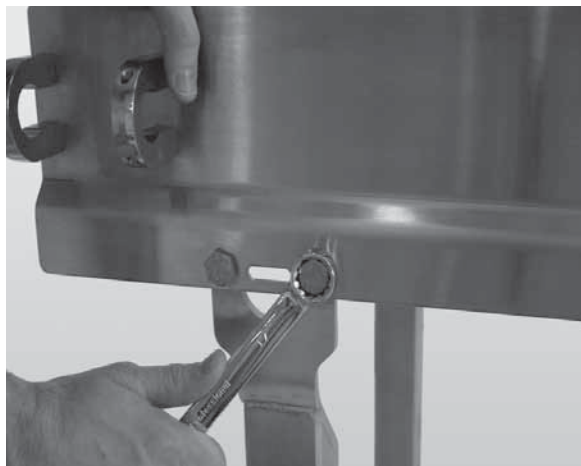

Figure 5
2. Attach the stands to the frame (Figure 5).